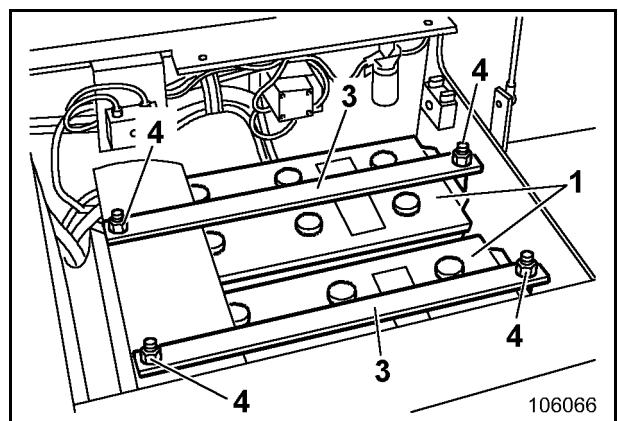

Fig. 3-43:
- Open hatch (8)
- Unscrew battery holder (3, Fig. 3-43:).